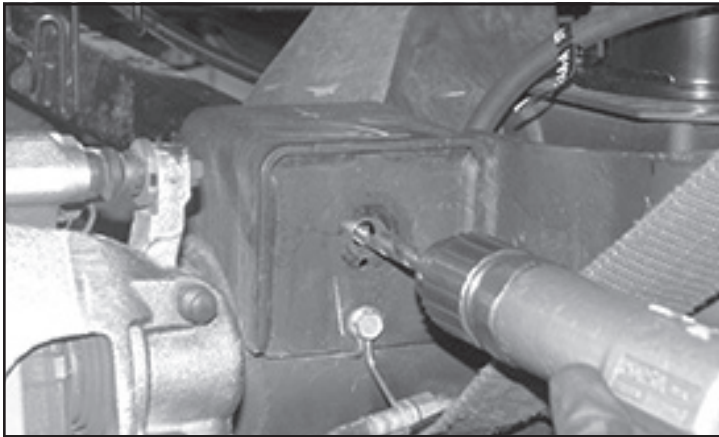

FIGURE 70 - STEP 63
63. Next, using a 1/2" bit, drill the old brake line bracket hole to allow for the new track bar support bracket in a future step. **SEE FIGURE 70**